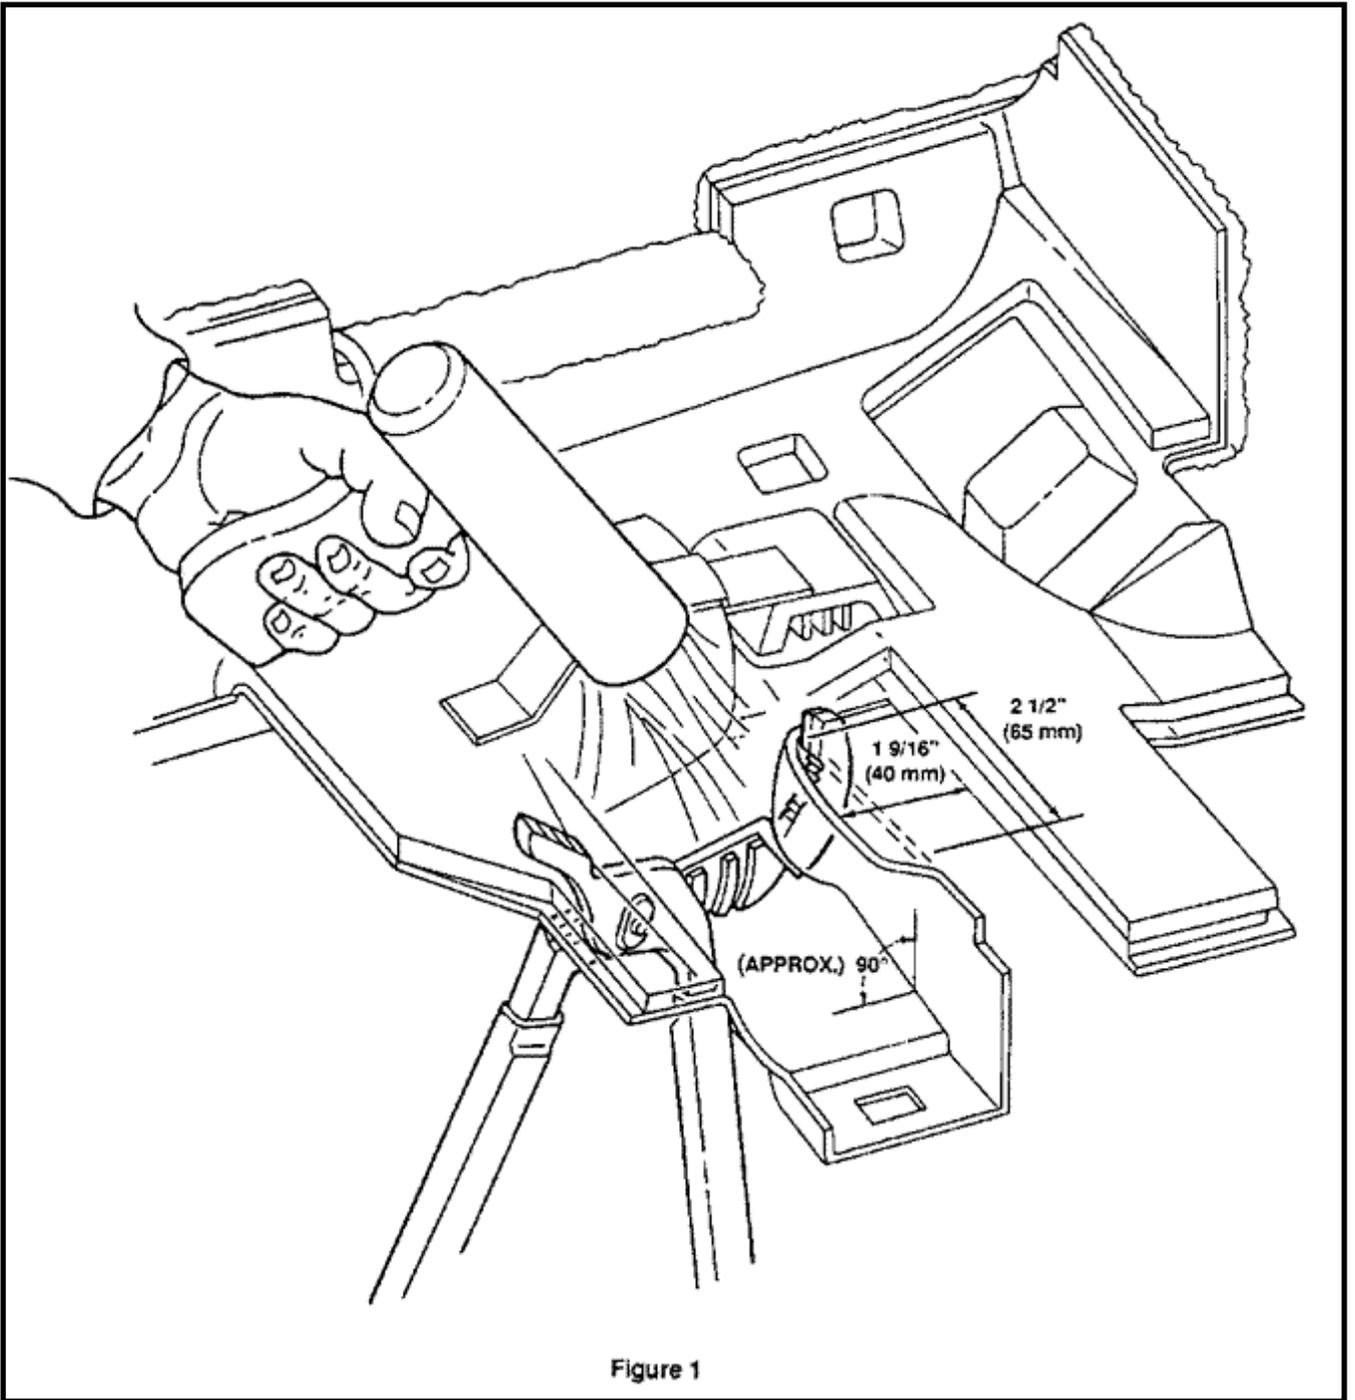

Figure 1
2. Lift away foam sound deadener from area shown in Figure 1 and tape out of way.
3. Using a heat gun, warm trim panel area shown in Figure 1. **USE CARE TO WARM COMPLETE AREA EVENLY.**
4. Using Channel Locks size 16 or larger, place near upper left-hand corner of I/P left-hand lower trim panel as shown in Figure 1. Quickly reform brake pedal opening to configuration and dimensions indicated in Figure 1. If necessary, Channel Locks may be moved downward during initial reforming and/or steps 3 and 4 may be repeated to obtain minimum clearance of 2mm between brake service pedal arm and I/P left- hand lower trim panel.